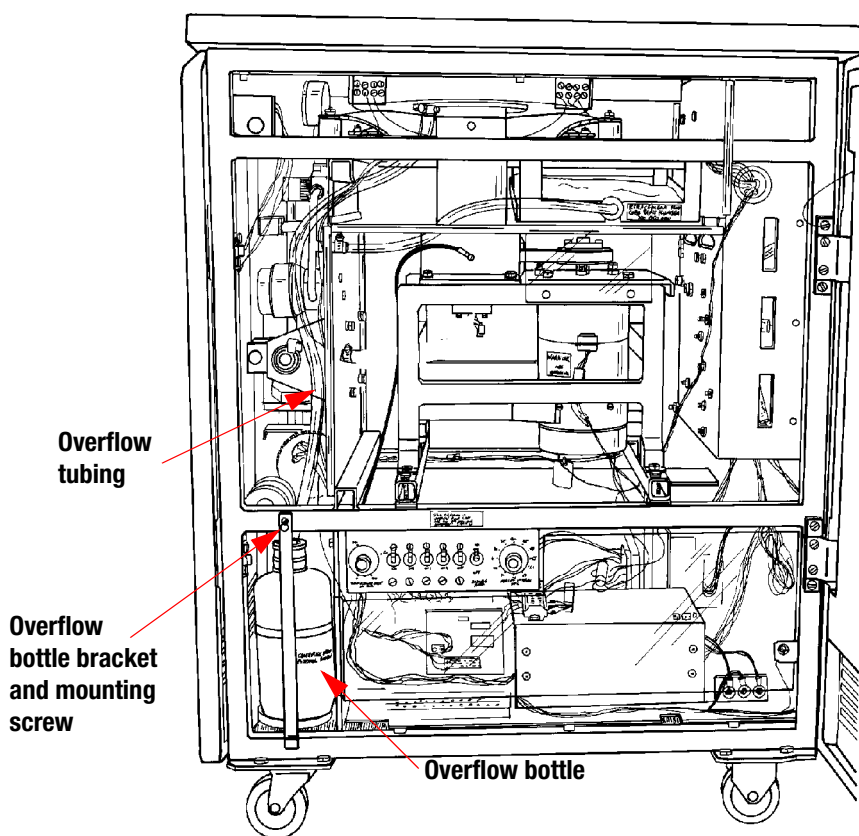

Figure 8-1: Overflow bottle location
- 4 The overflow bottle, located inside the right panel door at the front of the COBE 2991 (Figure 8-1), should be checked periodically. The presence of hydraulic fluid in the overflow bottle indicates a leak in the flexible diaphragm. Contact a qualified service representative to have the leak repaired. If cell product is present in the overflow bottle, see “Disinfecting As Needed” on page 8-4.